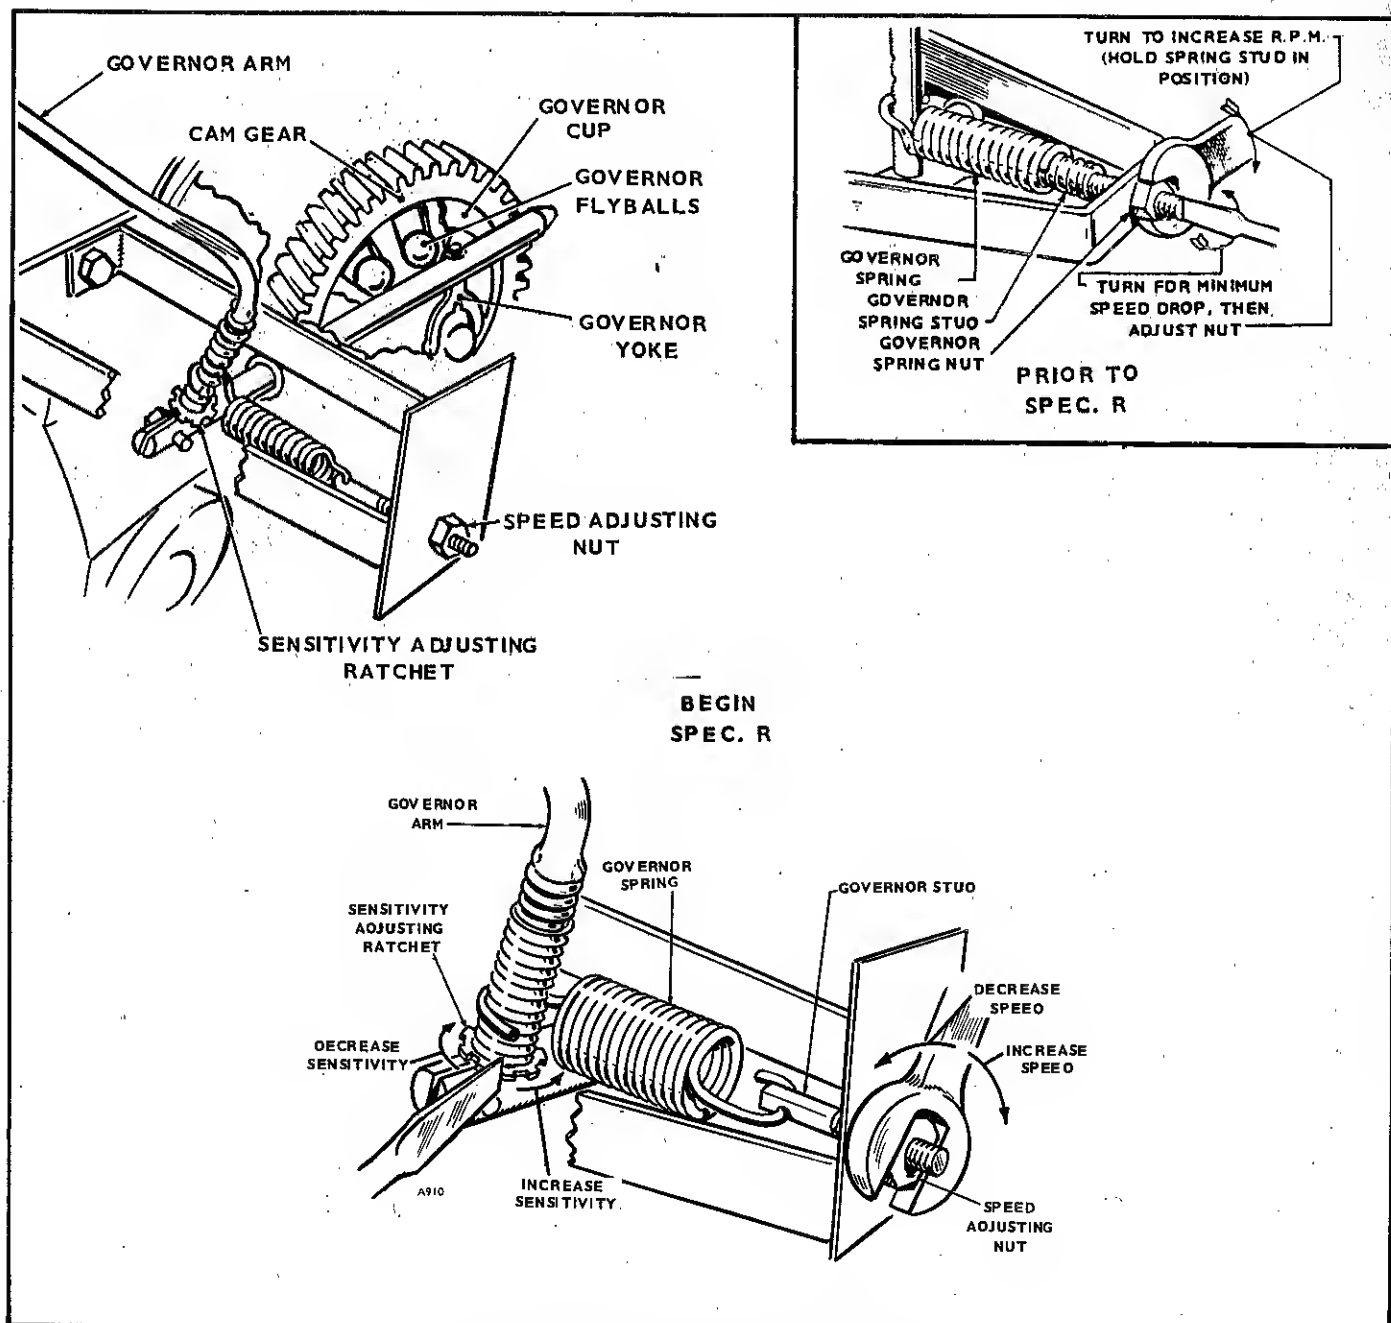

FIGURE 28. GOVERNOR ADJUSTMENTS
Prior to Spec R, both the governed speed and the governor sensitivity are adjusted with the stud and nut on the front of the engine air housing (Fig. 28). Beginning Spec. R the sensitivity is adjusted with an adjusting ratchet.
**Speed Adjustment (Begin Spec. R):** Adjust engine speed (RPM) by turning governor speed adjusting nut (Fig. 28). Turn nut clockwise to increase speed, counterclockwise to decrease speed.